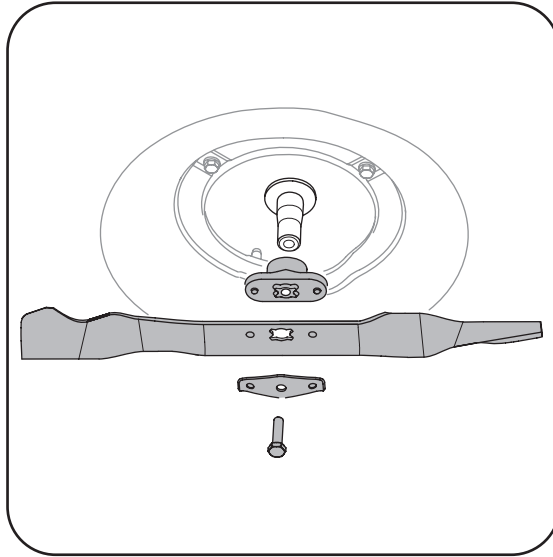

Figure 5-2: The blade and corresponding hardware.
2. Remove the bolt and the blade bell support which hold the blade and the blade adapter to the engine crankshaft. See Figure 5-2.
3. Remove blade and adapter from the crankshaft. See Figure 5-2.